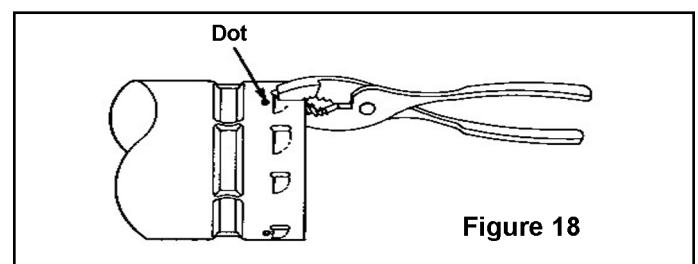

Figure 18
- A. Use a pair of pliers and flatten only the three locking teeth marked with dots on the cap (Figure 18).